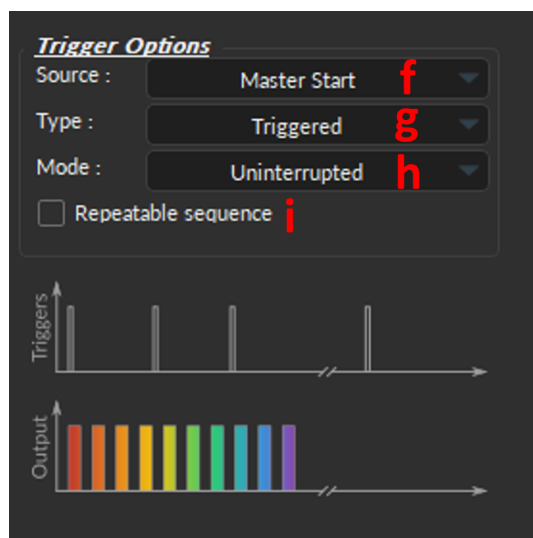
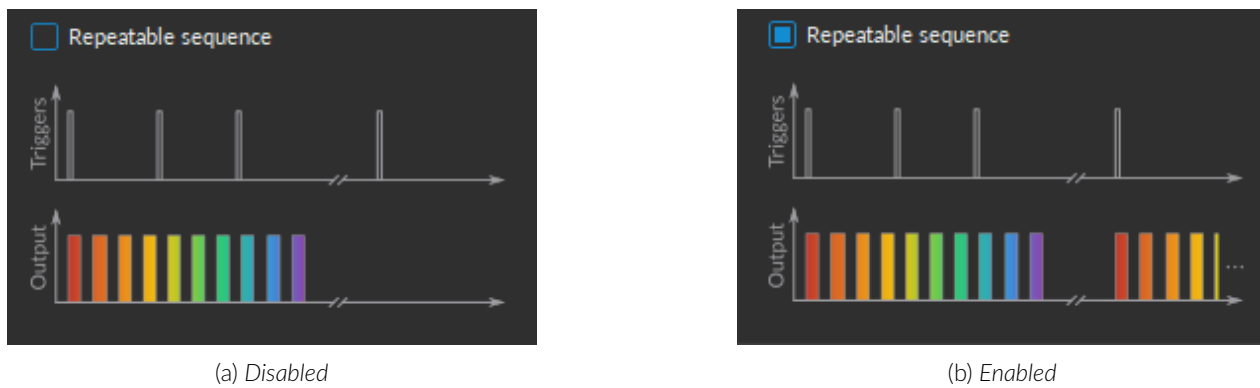

Figure 10.19: BFMC, Trigger Options
Figure 10.21: Repeatable sequence
2. The **Trigger Options** (Fig. 10.19)
- f) The **Source** trigger option (Fig. 10.19, f) specifies the element that will set off the digital output. Two options are available:
- g) The **Type** (Fig. 10.19, g) defines how the trigger activates a sequence. This includes input sequences, which can be triggered/gated by an outside source.
- h) The **Mode** (Fig. 10.19, h) defines how the sequence will run if a second TTL pulse is received before the sequence ends. This includes input sequences, which can be triggered/gated by an outside source. Four options are available:
- i) The **Repeatable sequence** checkbox (Fig. 10.19, i), when enabled, will run the sequence when additional TTL pulses are received (Fig. 10.21).